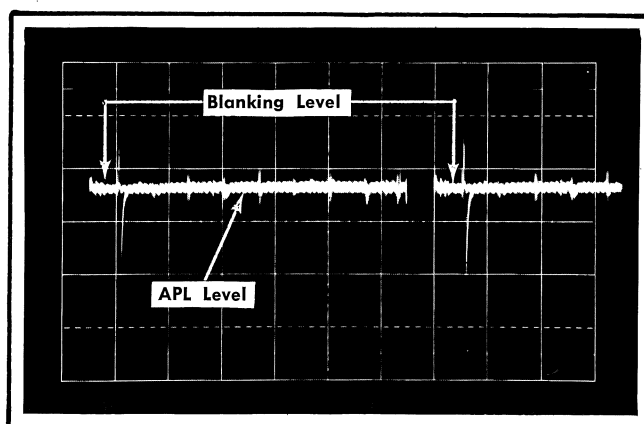

Fig. 5-11. Typical display with APL line superimposed on the blanking level to check APL amplitudes.
g. Observing the test oscilloscope display, rotate the 067-0596-00 calibration fixture  $V_2$  Volts control until the blanking level is superimposed on the 20% APL line as shown in Fig. 5-11.
k. Observing the test oscilloscope display, rotate the 067-0596-00 calibration fixture  $V_1$  Volts control until the APL line (as indicated by the APL switch setting) is superimposed on the blanking level as shown in Fig. 5-11.
v. Using the procedure just described for checking the 12.5, 20, and 27.5% APL switch settings, Fig. 5-11, check all remaining settings of the Type R141A FULL FIELD APL switch listed in Table 5-1.